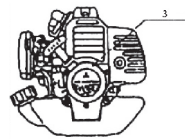

Fig. 15
- Periodically check the screws to ensure they are properly adjusted, and if they are loose, tighten them again. (Fig. 15).